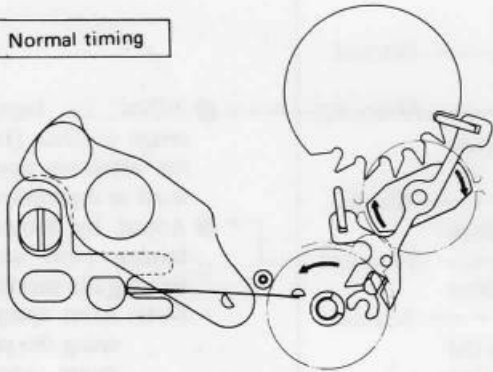

Fig. 4-12
1) Fig. 4.12 shows normal timing.